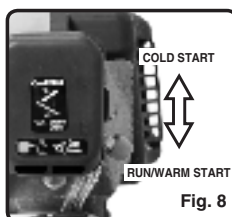

Fig. 8
3. Move the Choke Lever upwards to the "COLD START" position (see Fig. 8).